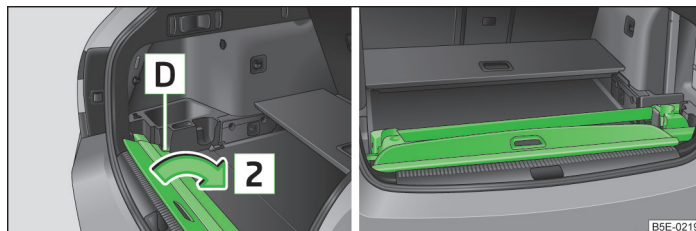

Fig. 88 Stowing roll-up luggage compartment cover/stowing roof racks and roll-up luggage compartment cover properly
- Insert the front part of the roll-up luggage compartment cover under a portion of the side trim **D** » Fig. 88 on the left.
When stowing **both** the roof rack and the roll-up luggage compartment cover, the rear part of the roll-up luggage compartment cover should overlap the rear roof rack » Fig. 88.